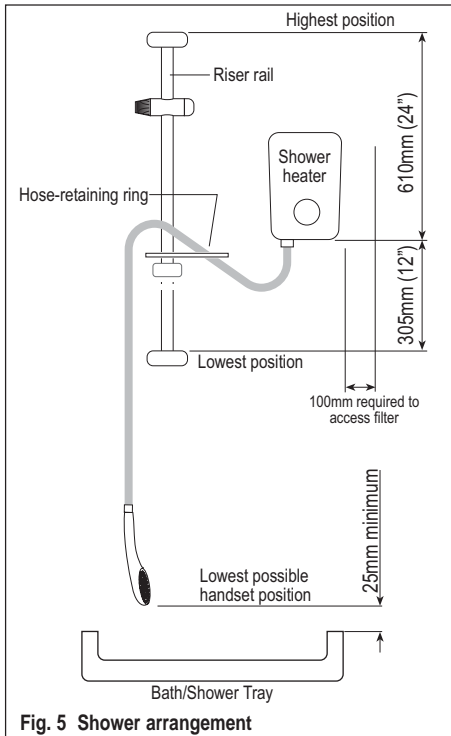

Fig. 5 Shower arrangement
5.4.1 For rear entry, the cable must emerge from the wall only in the area specified, see fig. 5 and template.